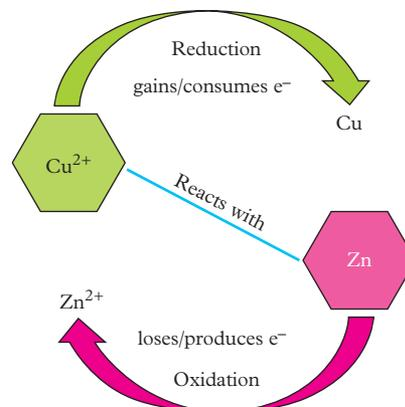

FIGURE 2 The 'S' configuration for the reaction between Zn and Cu^{2+}
- 3 The copper(II) ions are the strongest oxidant (top left), and react with solid zinc, the strongest reductant (bottom right) spontaneously. Assign the 'S' configuration (Figure 2).